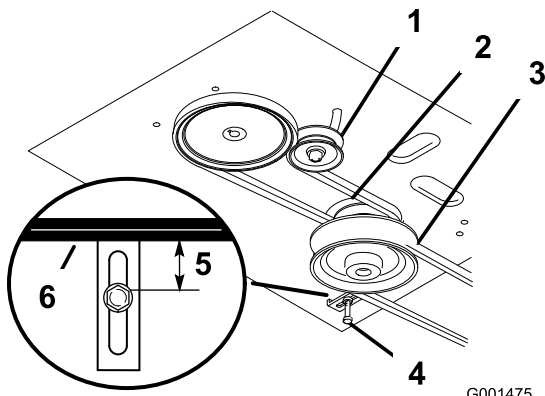

Figure 41
4. Remove the mower belt (Figure 41).
5. Loosen the pivot bolt enough to slide the idler pulley in the slot, and remove the traction belt from the engine and drive pulleys (Figure 41).
6. Install the new drive belt around the engine and drive pulleys (Figure 41).
7. Slide the idler pulley in the engine frame to tension the traction belt (Figure 41).
8. Install the mower belt (Figure 41).
9. Check the belt guide under the engine frame for the proper adjustment (Figure 41).
13. Check the belt guide under the engine frame for the proper adjustment (Figure 41).